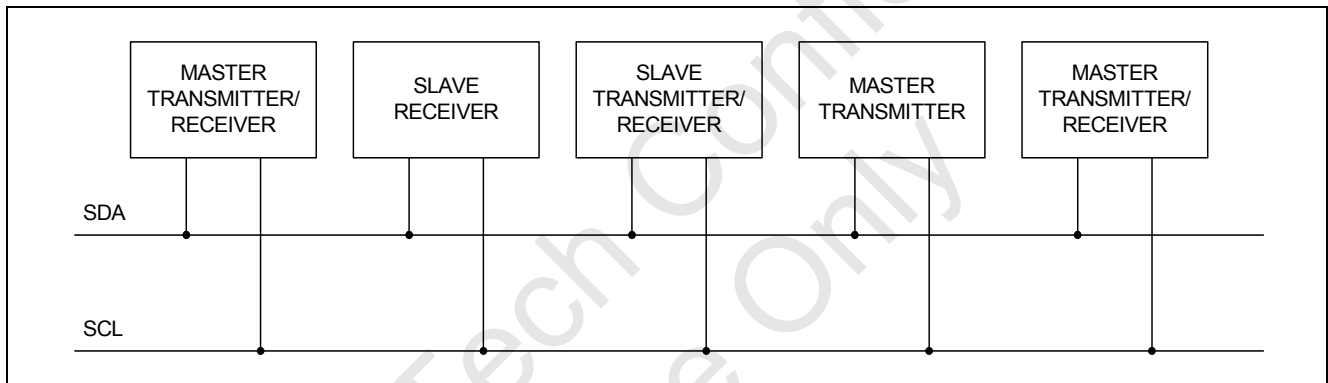

Figure 6.6.1.1 System configuration
6.6.1.2. Bit transfer (See Figure 6.6.1.2)